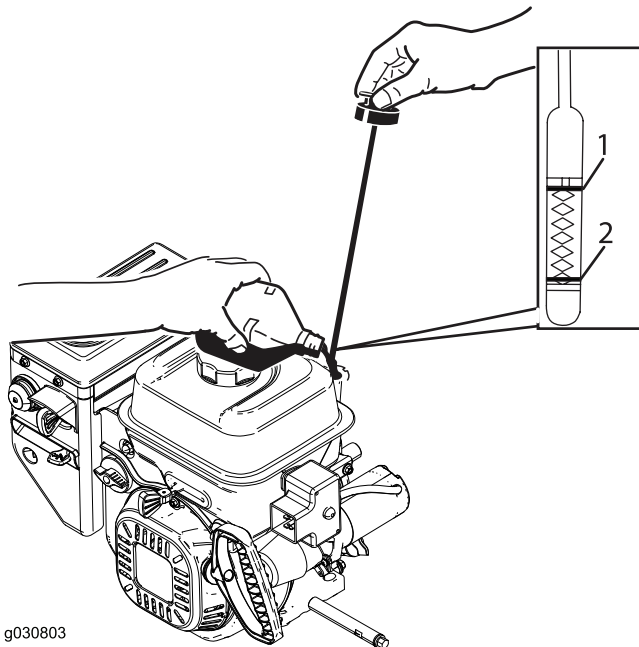

Figure 35
2. Remove the dipstick and check the oil level (Figure 35). If the oil level is below the Add mark on the dipstick, add oil. Refer to (page).